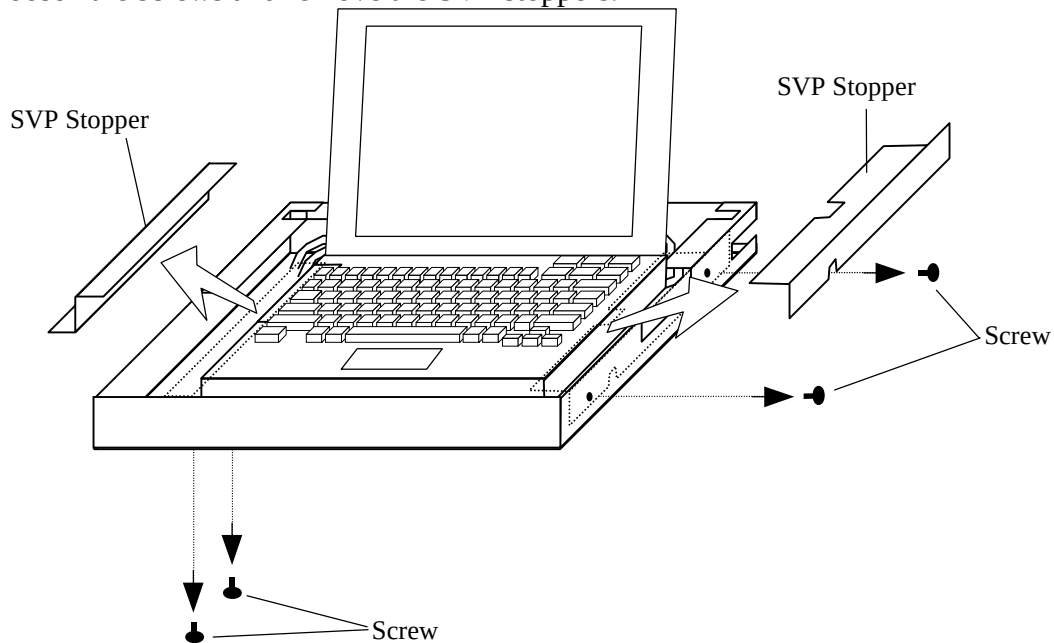

Fig. 4.12-14 Removing and installing the SVP Stoppers
- b. Install the SVP to the SVP ASSY and attach the SVP stoppers with screws. (See Fig. 4.12-14.)